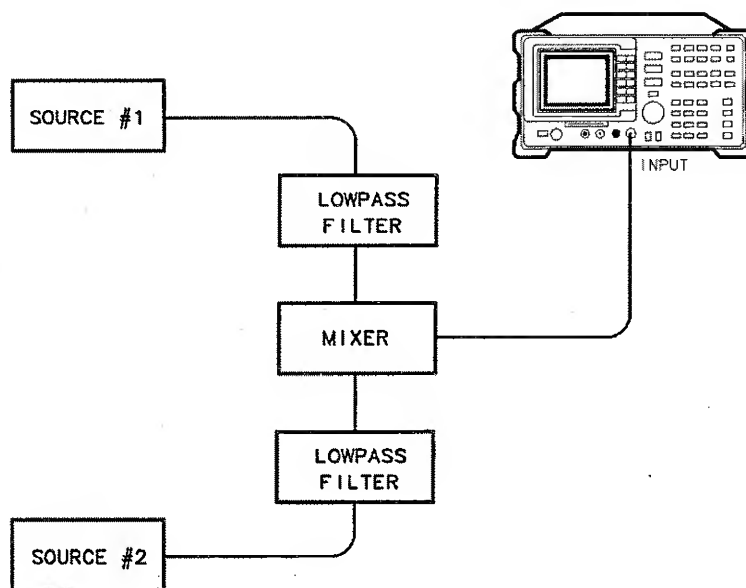

Figure 3-24. Third-Order Intermodulation Equipment Setup
1. Connect the equipment as shown in Figure 3-24.